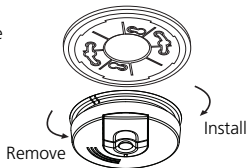

FIGURE 6
2. After selecting the proper smoke alarm location as described in Section 1 and wiring the AC Quick Connector as described in the WIRING INSTRUCTIONS, attach the trim ring to the electrical box (see Figure 6). To ensure aesthetic alignment of the alarm with the hallway or wall, the "A" line on the mounting bracket must be parallel with the hallway when ceiling mounted, or horizontal